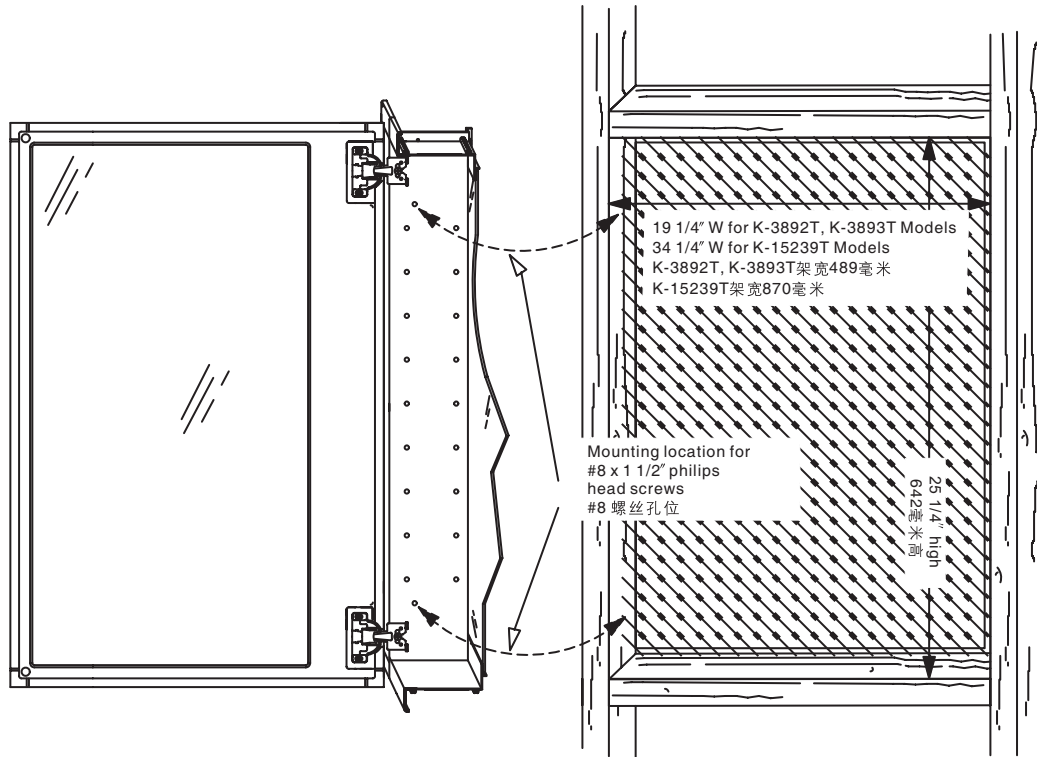

Fig.1 图1
B. Install screws through holes in cabinet as shown in Fig.1
B. 按图1所示将螺丝装入浴柜的螺丝孔中。